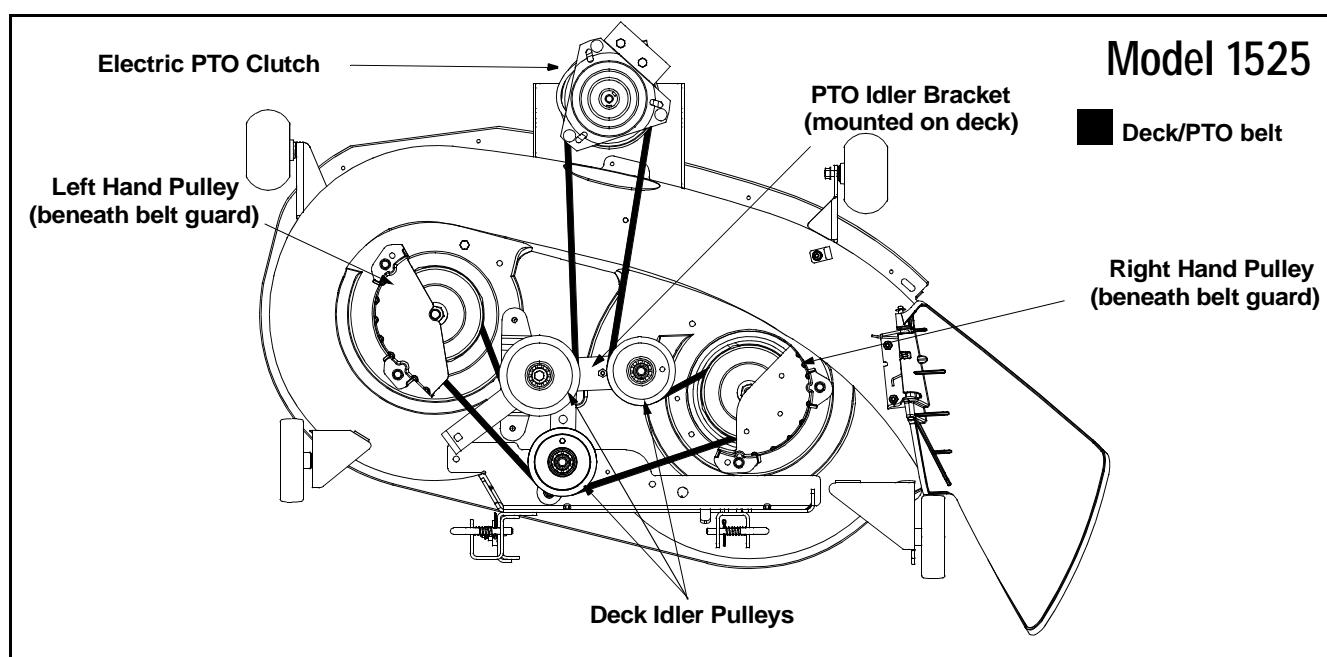
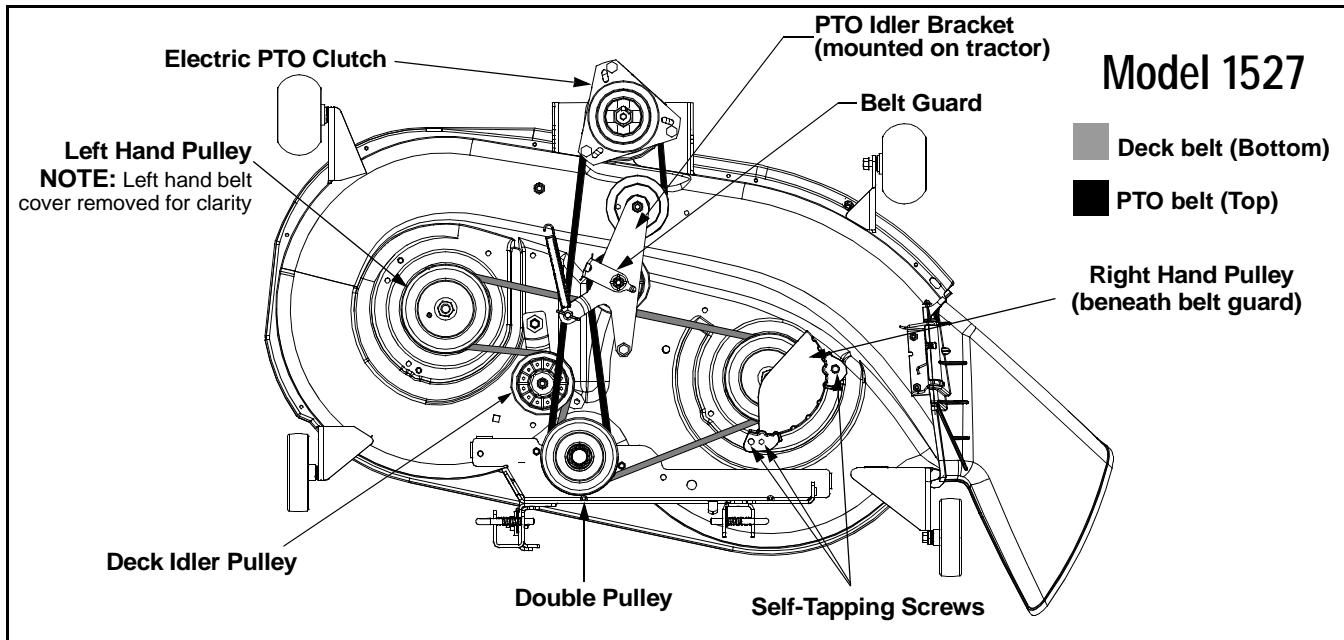

Figure 27
Figure 28
- Pull the PTO idler bracket (on deck of Model 1525; under center of tractor frame Model 1527) against its tensioner spring to loosen the tension on the PTO belt and allow the belt to be removed from around the tractor's electric PTO clutch. Refer to Figure 27 or Figure 28.
- Remove the belt guards by removing the self-tapping screws that fasten them to the deck. See Figure 27.
- Install the new belt routing it exactly the same as the removed belt and as shown in Figure 27.
- Install the new belt routing it as shown in Figure 28. Make certain the belt is between the belt guard and flat idler pulley on the idler bracket.
- Remove the belt guards by removing the self-tapping screws that fasten them to the deck. See Figure 28.
- Pull the deck idler pulley away from the backside of the deck belt and lift the deck belt up above the idler pulley. Carefully release the spring tension from the idler pulley/bracket and remove the belt from the deck. See Figure 28.
- Pull the deck idler pulley toward the left side of the deck and position it against the backside of the belt as shown in Figure 28.